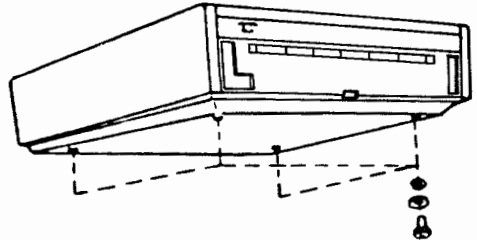

Fig. 20
Step 1 — Tilt up cabinet or place over edge of table and remove mounting hardware (Fig. 20).